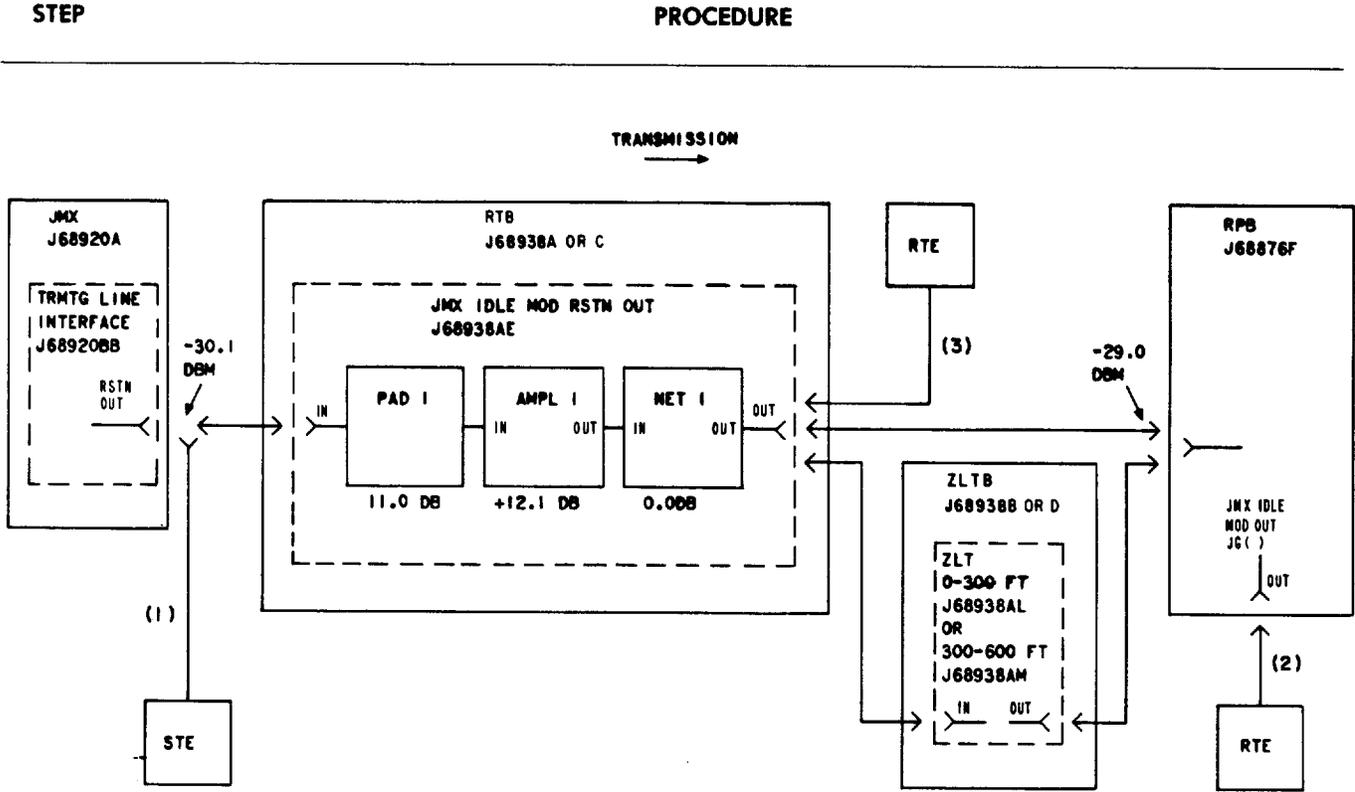

Fig. 5—JMX Idle Transmitting Modulator Output Restoration Trunk Circuit
4	By using office records, locate the transmitting line interface panel of interest at the JMX and remove the cable from the RSTN OUT jack. Connect the STE to the cable [Fig. 5, patch (1)].
5	Connect the RTE to the JMX IDLE MOD OUT jack at the RPB [Fig. 5, patch (2)].
- 9 Move the RTE to the OUT jack at the RTB [Fig. 5, patch (3)].
- 18 If the requirement in Step 17 is met, move the RTE back to the RPB [Fig. 5, patch (2)], restore the coax to the OUT jack at the RTB, and go to Step 19; if otherwise, troubleshoot the trunk between the RTE and the STE and go back to Step 11.